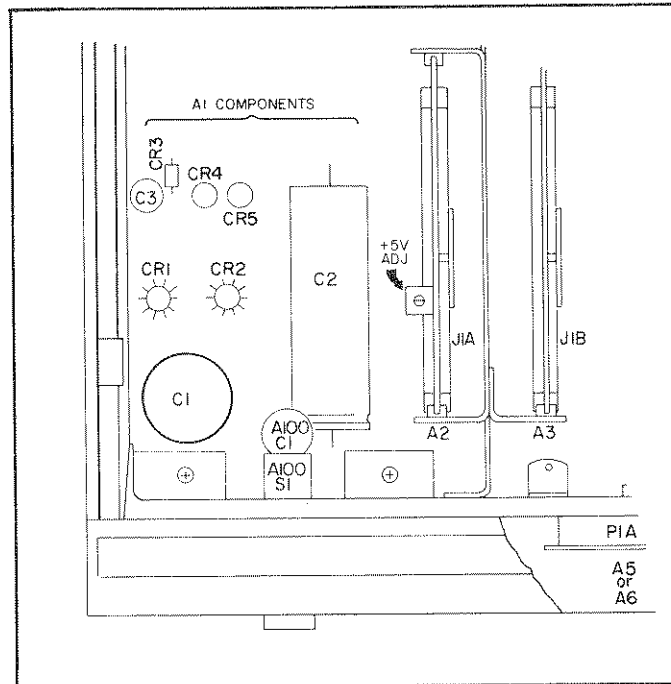

Figure 5-1. Five (5) Volt Adjustment.
- c. Adjust A2R1 to give a reading on the voltmeter of $+ 5 \text{ V} \pm 3\%$. This adjustment screw is shown in Figure 5-1.